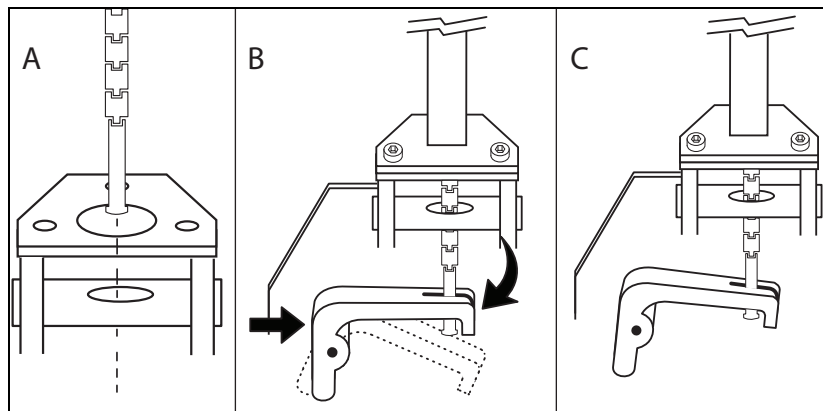

Figure 2-3. Connecting the Handlebar Chain
3. Direct the handlebar chain into the handlebar and through the center hole in the pivot pin (Figure 2-3-A).
4. Push down on the steering column lever and hold down to assist in joining the handlebar chain with the lifting connection lever. Navigate the end of the chain into the groove in the lifting connection lever. Ensure the bottom catch of the chain is below the lever and seated completely into the groove for a good connection (Figure 2-3-B).
5. Release the steering column lever, further engaging the handlebar chain with the connection lever (Figure 2-3-C).